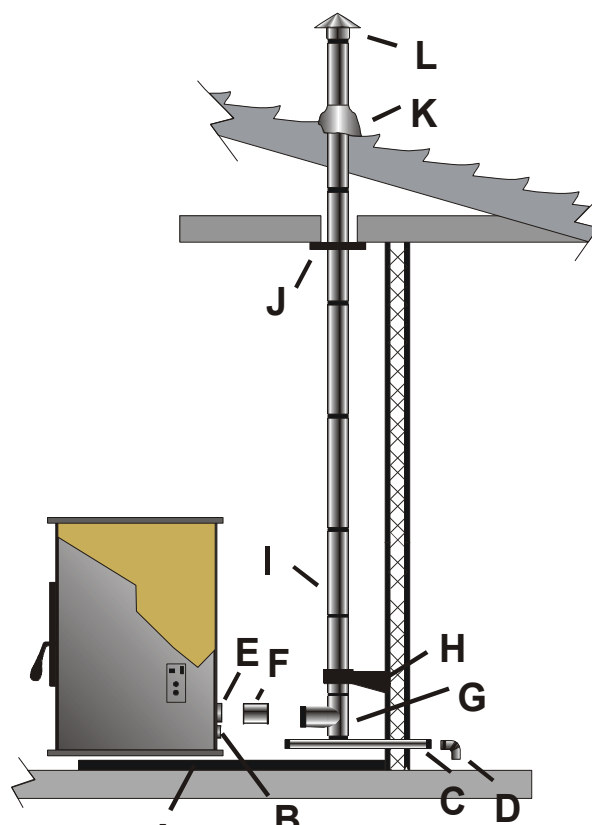

Figure 26
-  The stove must have a permanent outside air source with a ¼ inch screen over the inlet. Figure 26, (B, C & D)
-  Chimney/PL Vent must be 3" or 4" PL Vent and must extend a minimum of 36" above the roofline of the mobile home and must be installed using a UL / ULC listed ceiling fire stop (J), figure 26, and rain cap (L), figure 26., when installing as a vertical run. See diagram below.